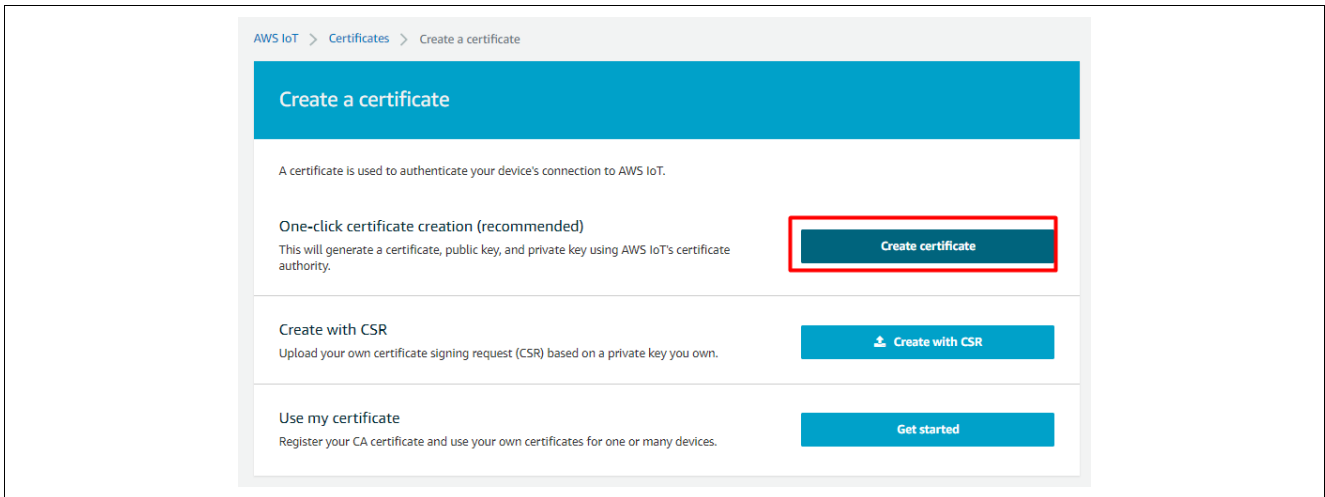

Figure 23. Create a new Certificate
- On the new **Create a Certificate** window, click on **One-click certificate creation (recommended)** as shown in the Figure 23.